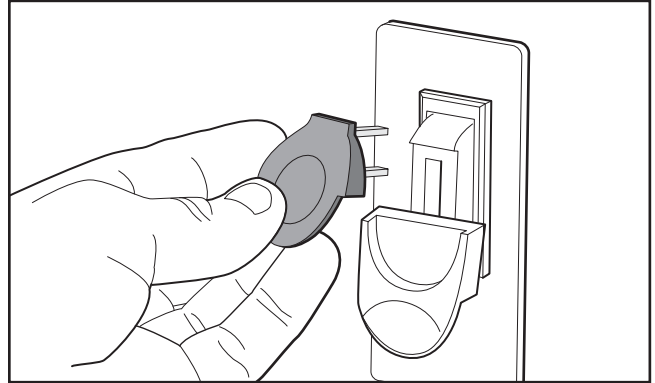

Figure 22. Removing key from ON/OFF paddle switch.
4. Remove key, as shown in **Figure 22**.